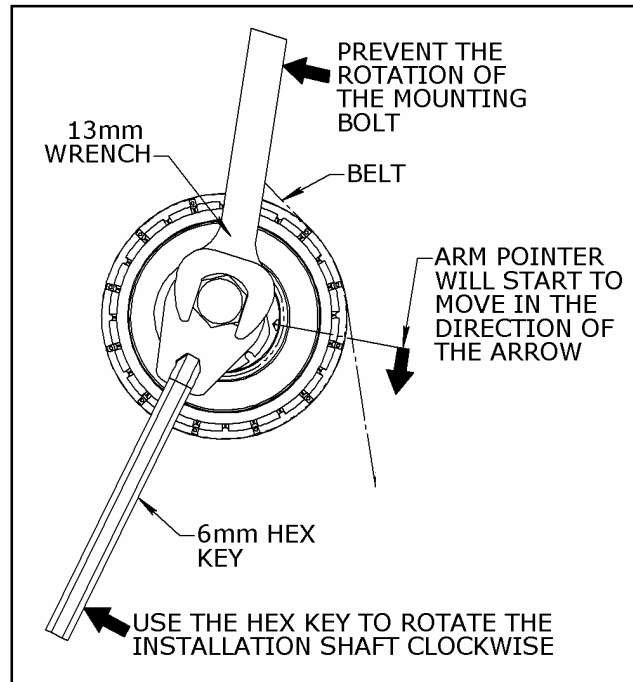

Figure 4: Tensioner Rotation Direction during Installation
8. Rotate the Installation Shaft **CLOCKWISE** with an Allen (hex) Key. Make sure to hold the mounting bolt with a wrench in order to prevent it from turning when rotating the Installation Shaft. The tensioner assembly will move against the belt and the Arm will eventually start to move **CLOCKWISE** (Figure 4).